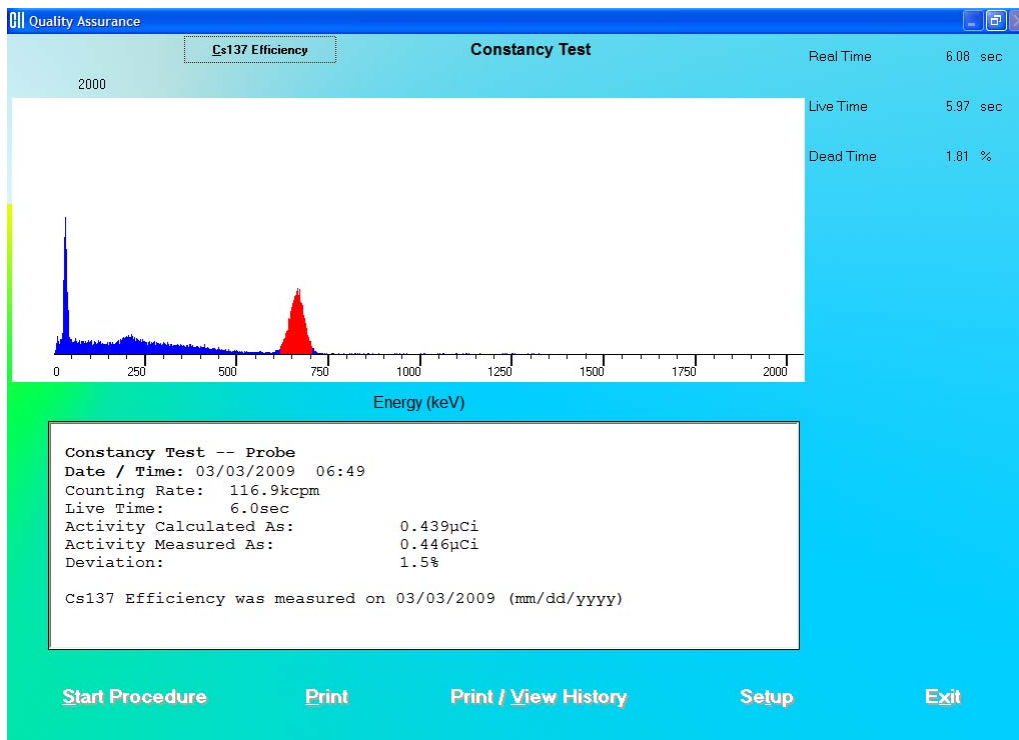

Figure 5-15 Constancy Test Results Screen
8. After the test is completed, the results of the test appear in the box below as shown in Figure 5-15 Constancy Test Results Screen. Note the Deviation value at the bottom.